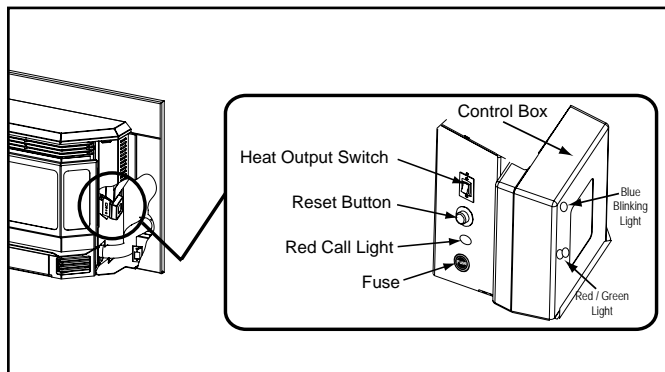

Figure 27.1
The appliance is like most modern furnaces; when the thermostat calls for heat, your appliance will automatically light and deliver heat. When the room is up to temperature and the thermostat is satisfied, the red call light will shut off and the appliance will shut down. **Figure 27.1.**
3. Locate the heat output control switch on the right side behind the right side panel. Set to the HIGH setting and then adjust the thermostat to its highest setting. The red call light will be on which is located on the right side behind the right side panel. This indicates the thermostat is calling for heat. **Figure 27.1.**